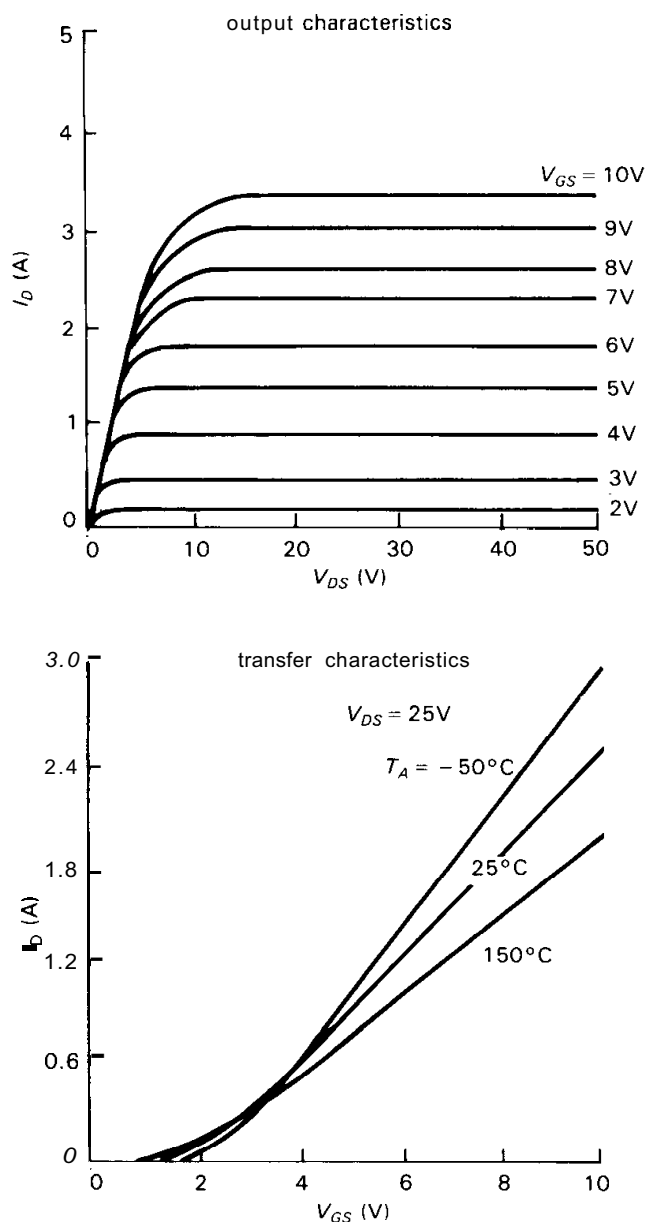

Figure 3.68. Drain characteristics of an n-channel low-threshold MOSFET (type TN0104).
1.5 volts (max)," which sounds fine until you read the fine print ("at $I_D = 1mA$ "). It takes considerably more gate voltage than $V_{GS(th)}$ to turn the MOSFET on fully (Fig. 3.68). However, the circuit will probably work OK, because (a) a HIGH TTL output is rarely less than +3 volts, and typically more like +3.5 volts, and (b) the TN01 further specifies " $R_{ON}(typ) = 5\Omega$ at $V_{GS} = 3V$."